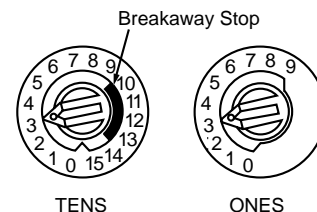

Figure 2. Rotary Address Switches
2. Set the desired address on the sensor address switches, see Figure 2.
NOTE: Some panels support extended addressing. In order to set the sensor above address 99 on compatible systems, carefully remove the stop on the upper rotary switch with thumb as shown in Figure 2.